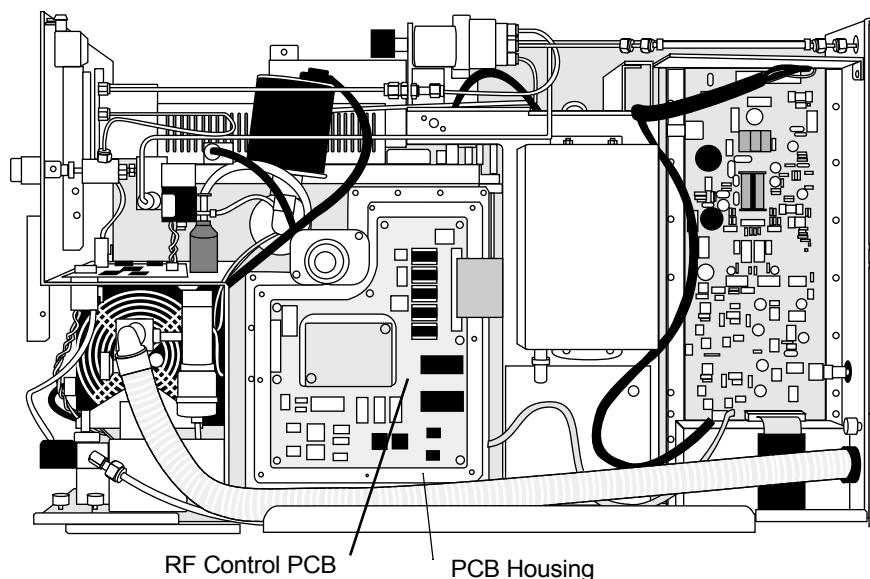

Figure 7-22. Right Side of GCQ Plus Showing RF Control PCB
5. Remove the front cover of the RF Control PCB. There are nine screws. Figure 7-22 shows the location of the RF Amplifier PCB.